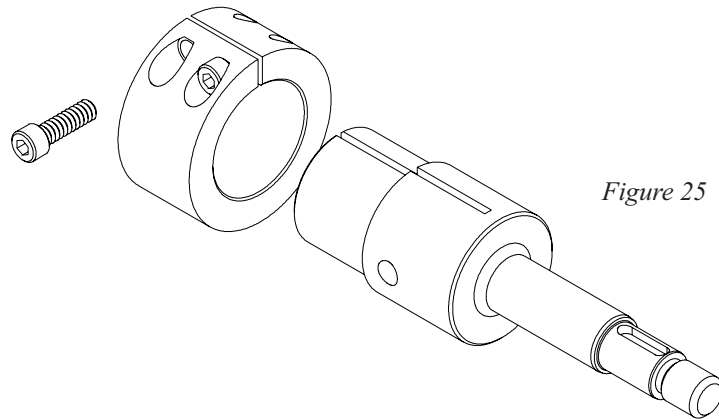

Figure 25
h) Tighten the shaft collar screw (5) in the shaft collar (6) to the proper torque, see page 4 (*Figure 25*).